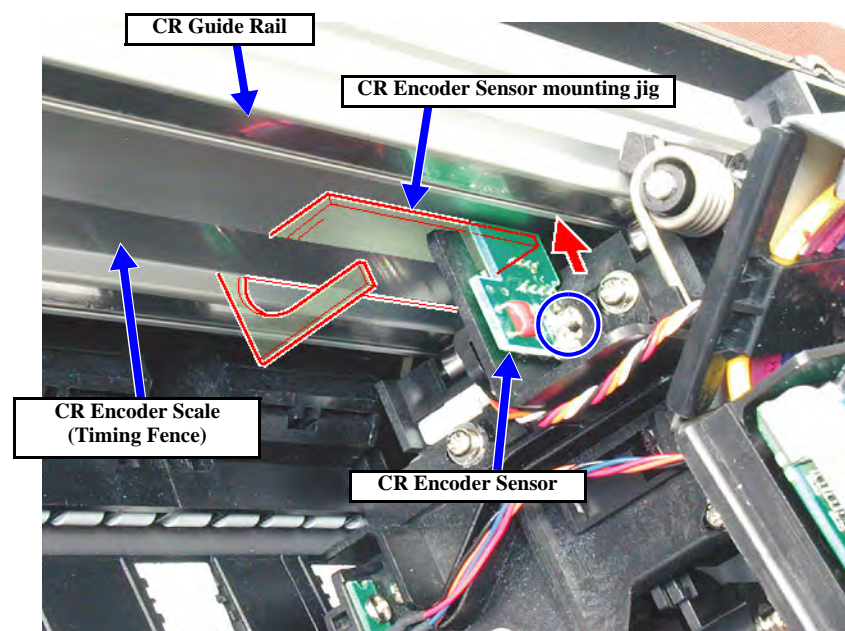

Figure 5-70. Adjusting the CR Encoder Sensor Mounting Position 2/2
4. Loosen the screw securing the CR Encoder Sensor Board, and set the CR ENC Sensor positioning jig between the CR Encoder Sensor and the CR Guide Rail. (See Figure 5-70)